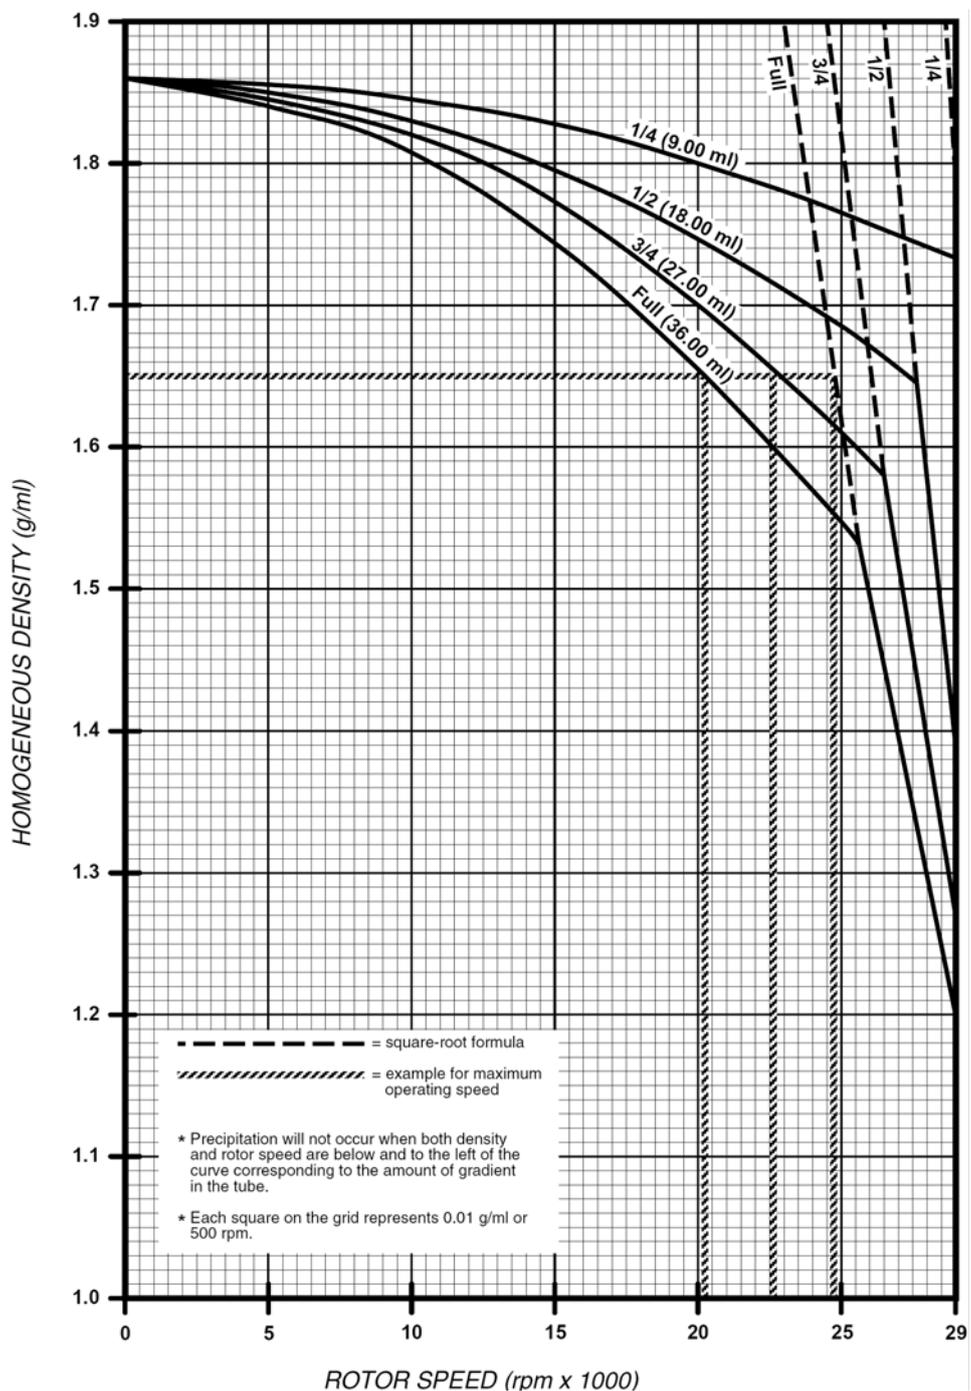

Figure 2-11. CsCl Precipitation Curve, 36 ml Buckets, 25°C
- 20,300 rpm at 25°C using 36 ml buckets (Figure 2-11)
- 22,600 rpm at 25°C using 36 ml buckets (Figure 2-11)